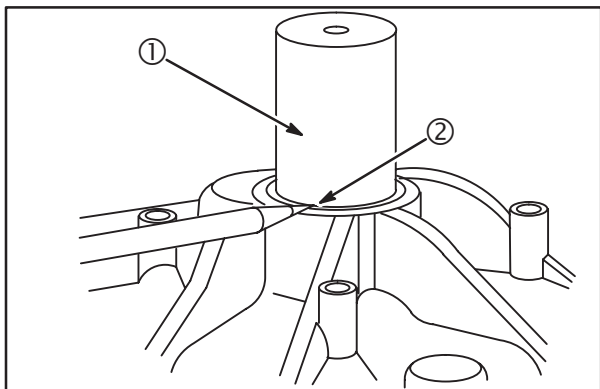

Fig. 6
2. Insert Bushing Driver #19450 (1) into bearing from oil seal side, **Fig. 6**.
3. Place a reference mark (2) on driver to indicate proper depth when installing new bearing.
Insert Bushing Driver #19349 into bearing from oil seal side. Place a reference mark on driver to indicate proper depth of bushing when installing new bearing, as shown, **Fig. 6**.